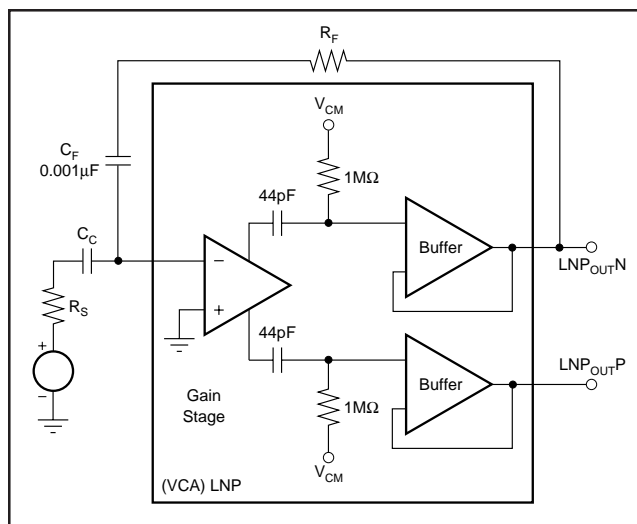

FIGURE 8. Low Frequency LNP Time Constants.
When employing active feedback, the user should be careful to avoid low-frequency instability or overload problems. Figure 8 illustrates the various low-frequency time constants. Referring again to the input resistance calculation of Equation (3), and considering that the gain term  $A$  falls off below 3.6kHz, it is evident that the effective LNP input impedance will rise below 3.6kHz, with a DC limit of approximately  $R_F$ . To avoid interaction with the feedback pole/zero at low frequencies, and to avoid the higher signal levels resulting from the rising impedance characteristic, it is recommended that the external  $R_F C_C$  time constant be set to about 5μs.